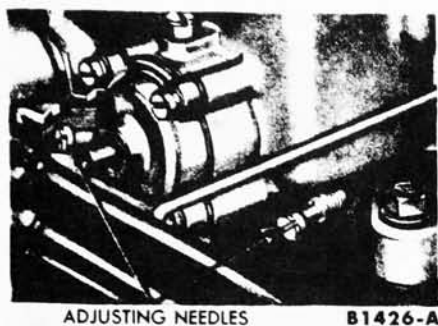

FIG. 20—Carburetor Idle Fuel Mixture Adjustment
22. Check And Adjust Idle Fuel Mixture (Refer to Fig. 20). Make the initial mixture adjustment by turning the needles in until they lightly touch the seat, then back them off 1-1½ turns. Do not turn a needle against the seat tight enough to groove the point. If a needle is damaged, it must be replaced before a proper mixture adjustment can be obtained.